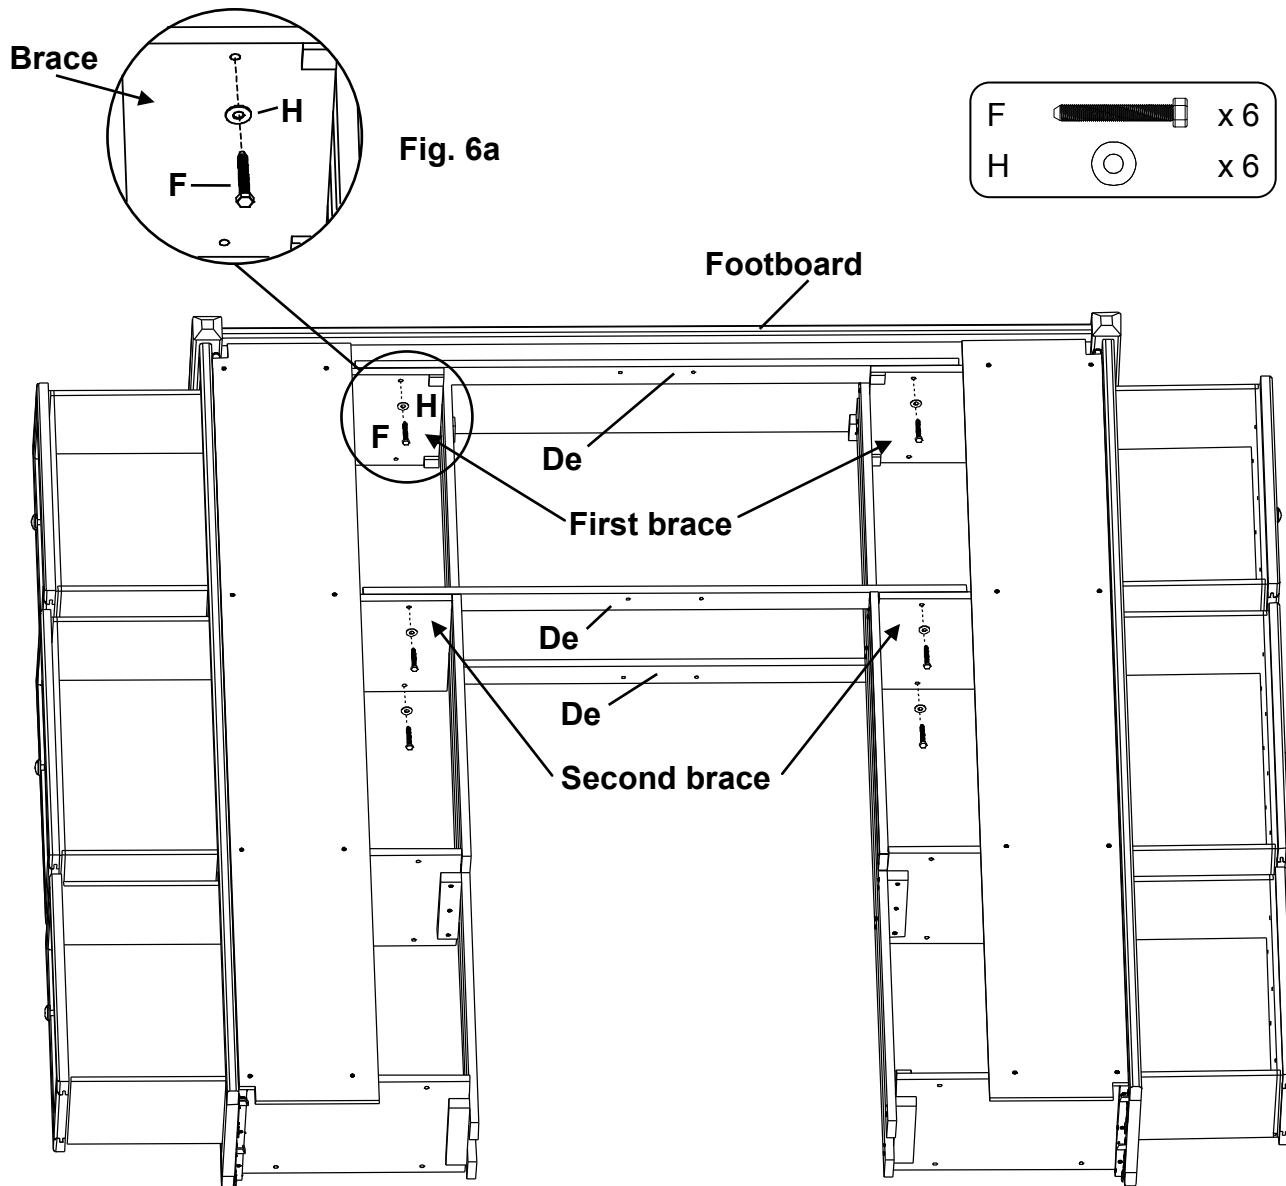

Fig. 6
Place a Trestle with T-Nuts (De) on the outside surface of the second lower brace so that the T-Nuts (ZU) sit near the bottom. Line up the bottom edges of the trestle and braces so they are nearly flush. Insert two 1/4" x 1-3/4" Hex Bolts (F) and Washers (H) and tighten. See Figures 6 and 6a.